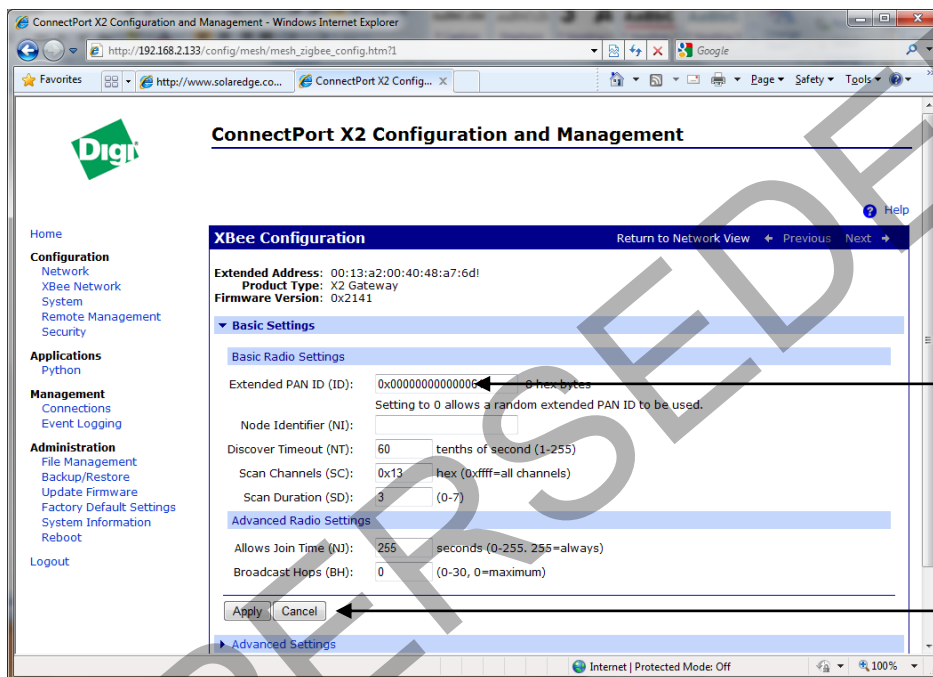

Figure 16: Configuring the PAN ID Parameter of the ConnectPort X2
- Set the parameters under **XBee Network** → **Basic Settings**, as shown in Figure 16.